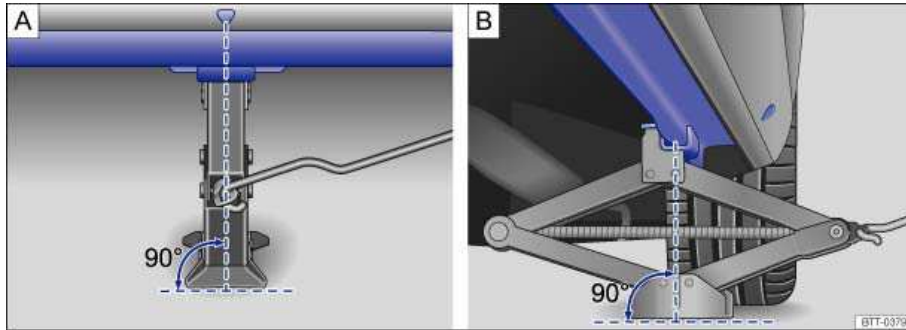

Fig. 211 Jack in position at the left rear lift point.
9. Position the jack so that its base is directly underneath the lift point ⇒ fig. 211, making sure that the entire base of the jack rests securely on the ground.